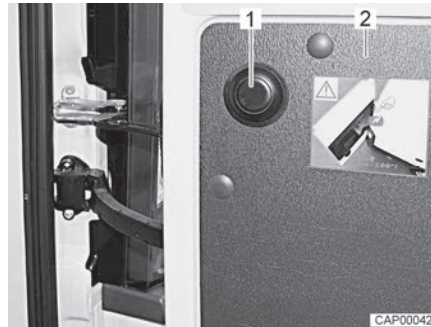

Fig. 18 Push button to release the limitation
- Open the rear door (Fig. 18,2) as far as it will go.
- Press the push button (Fig. 18,1), hold rear door and continue opening carefully.